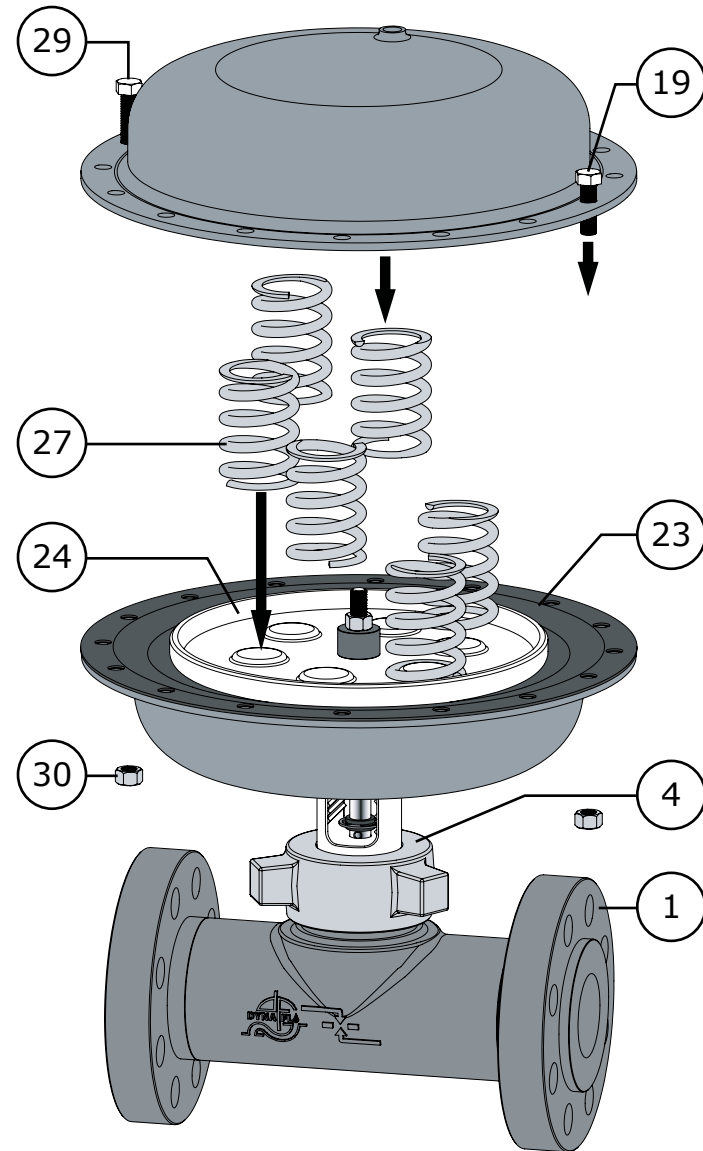

Figure 42 Upper Diaphragm Assembly (Fail Closed)
- Install the **long** (1-1/4") cap screws (Key 29) opposite from each other as shown in Figure 42. Partially thread a nut (Key 30) onto one of the **long** cap screws. It may be necessary to compress the springs (Key 27) by pushing slightly on the upper casing (Key 28) to thread a nut onto the second **long** cap screw.